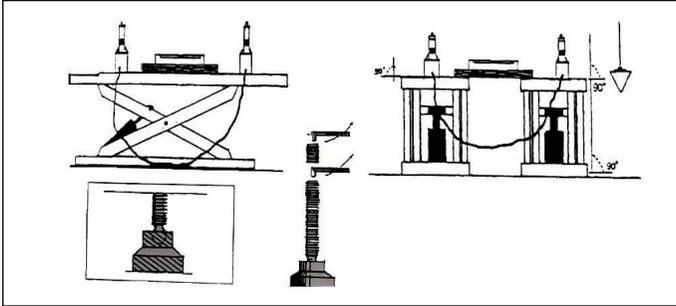

Fig. 19
- Inspect that the surfaces of the left and right platforms are level laterally and longitudinally with a transparent leveling pipe or level gauge (Fig. 19).